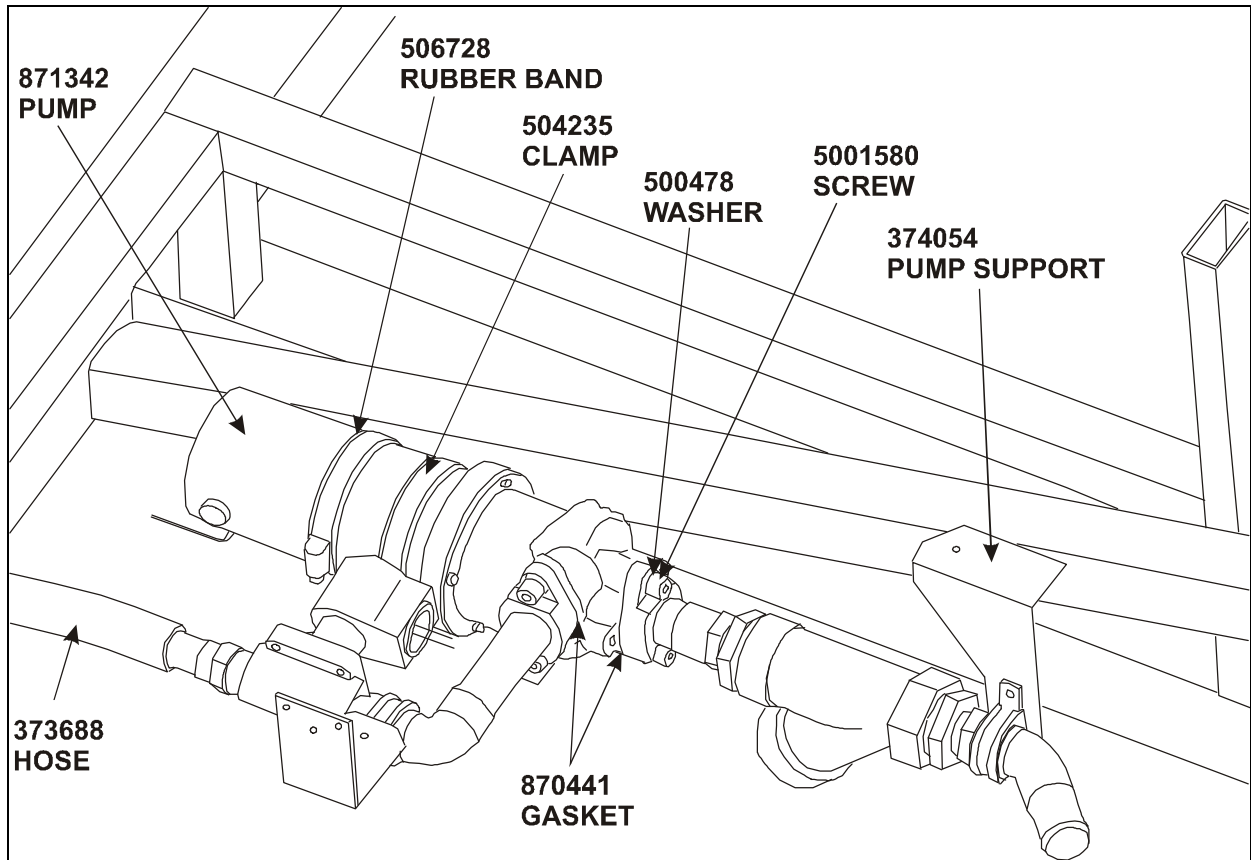

FIGURE 8
- Install new support (374054) onto the inlet line near the filter strainer without tightening the clamp (refer to figure 8).
- Replace the solenoid valve outlet hose (373688) (refer to figure 8).